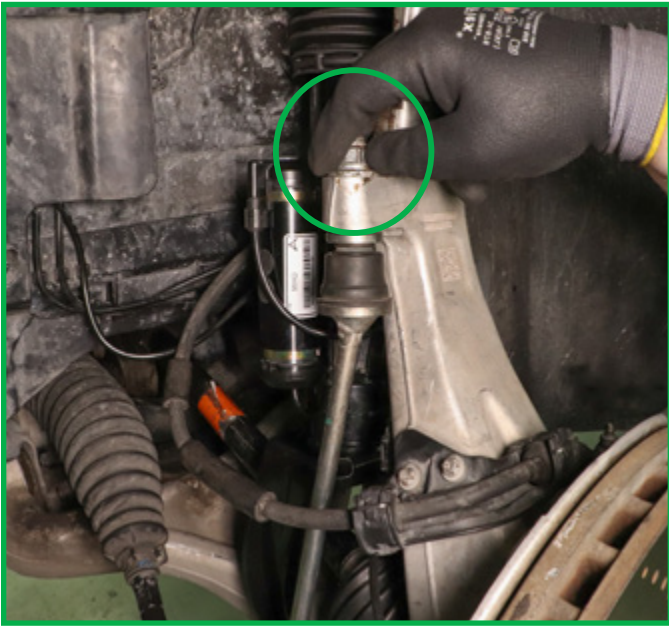

FIGURE 33
8. Reinstall sway bar linkage and tighten to manufacturer's specifications. (Figures 33, 34)